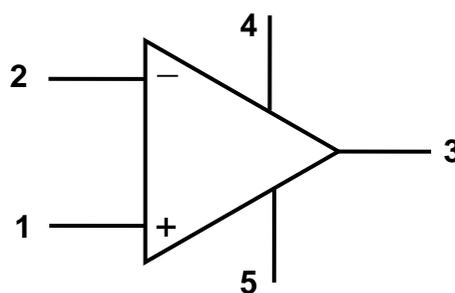

FIGURE 7.1: SYMBOL OF AN OP AMP (2)
- 7.1 7.1.1 The standard circuit symbol for an op amp is shown in FIGURE 7.1. Label the numbers 1, 2 and 3. (3)